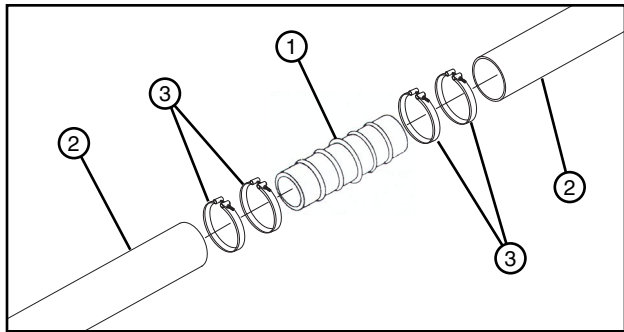

Figure 80-1 1. Rigid Mender
1. Place the rigid mender between the two sections of hose. See Figure 80-1.
2. Insert the mender halfway into the first hose section. See Figure 80-1.
3. Slide the other hose section into the mender. See Figure 80-1.
4. Secure both hoses onto rigid mender with band clamps. See Figure 80-1.